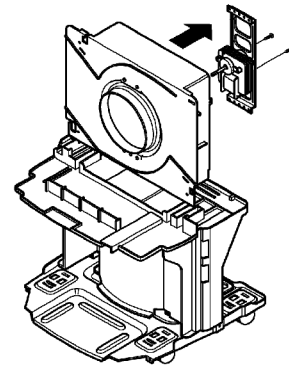

Figure 24
4. Unfasten 2 screws that secure the motor. (See Figure 24)